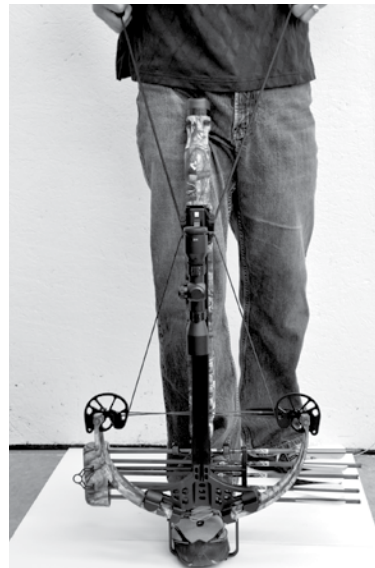

Figure 5
4. Pull the handles up and towards your body until you hear the click of the trigger resetting—the safety will automatically be set in the “safe” position (see figure 5). If the handles are not pulled towards your body, the hooks will pull up over the rail. If this happens, slowly let the crossbow down to the rest position, reposition the hooks on the sides of the rail and start again at step 1.